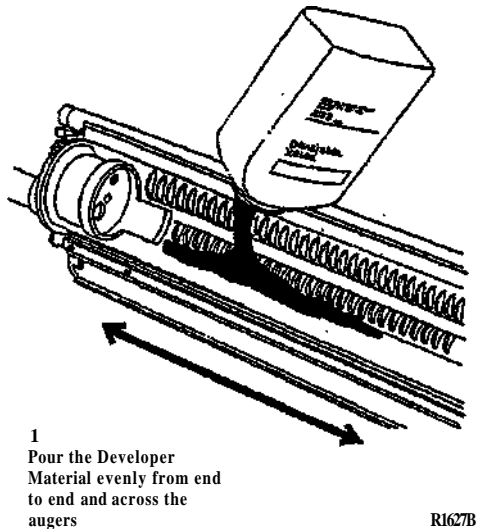

Figure 4. Installing the Developer Material
1. (Figure 4): Install the Developer Material and record the batch number in the Machine Log.